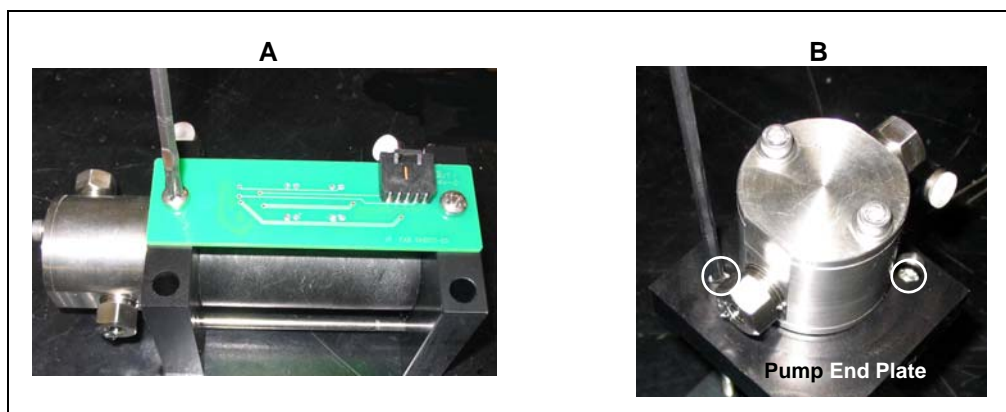

Figure 5-11. Removing the Pump PC Board and End Plate Bolts
1. Remove the PC board from the side of the pump (see Figure 5-11, view A).
2. Loosen the two bolts that hold the two pump end plates together (see Figure 5-11, view B).